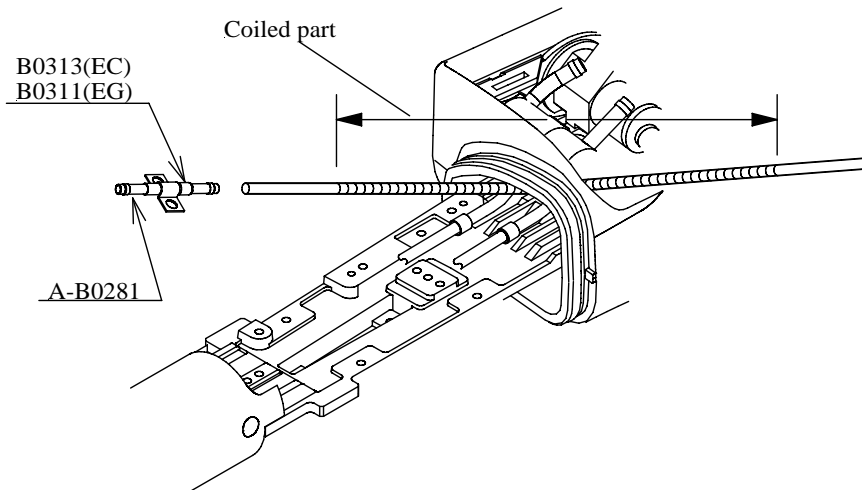

Fig.4-3-3
- 1) Pass the coiled side of A-C0161 into the Control Body as shown in Fig.4-3-3.